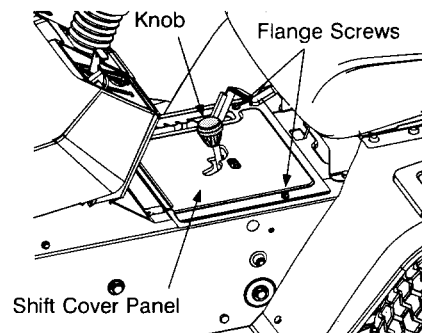

FIGURE 9
- Unthread the shift knob and remove the two flange screws which secure the shift cover panel in place. See Figure 9.
- Remove the shift cover panel and locate the deck disengagement rod. See Figure 9.
- Unthread the shift knob and remove the two flange screws which secure the shift cover panel in place. Refer to Figure 9.